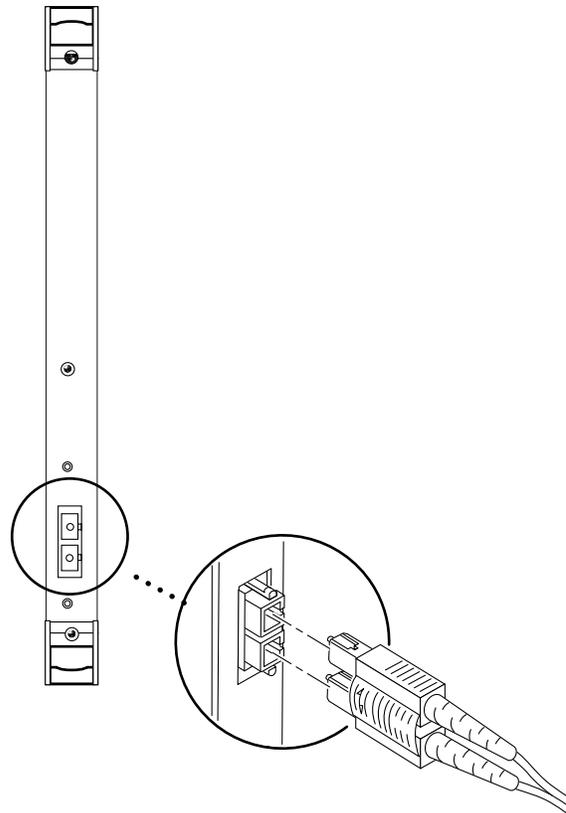

FIGURE 4-9 Connecting a Network Cable to the Front-Access Adapter
2. **Connect one end of a multimode fiber-optic cable to the SC connector on the adapter (see FIGURE 4-9).**